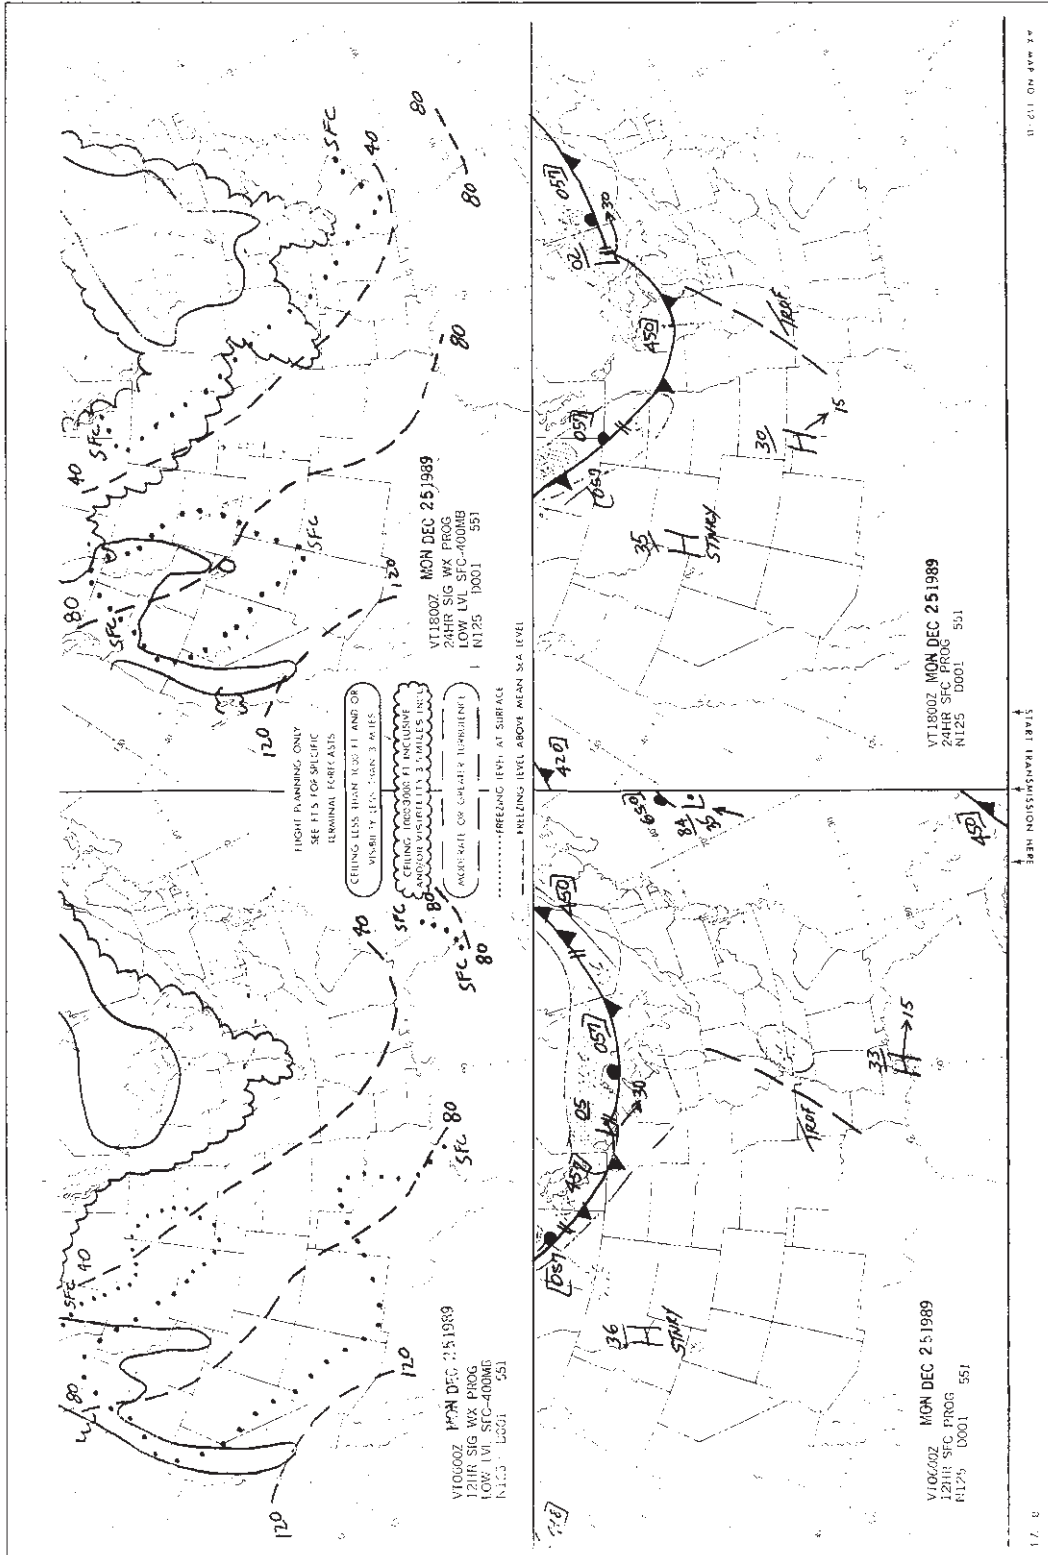

Figure 36-22 Questions 77 to 79.
*Refer to figure 36-22 (page 754)